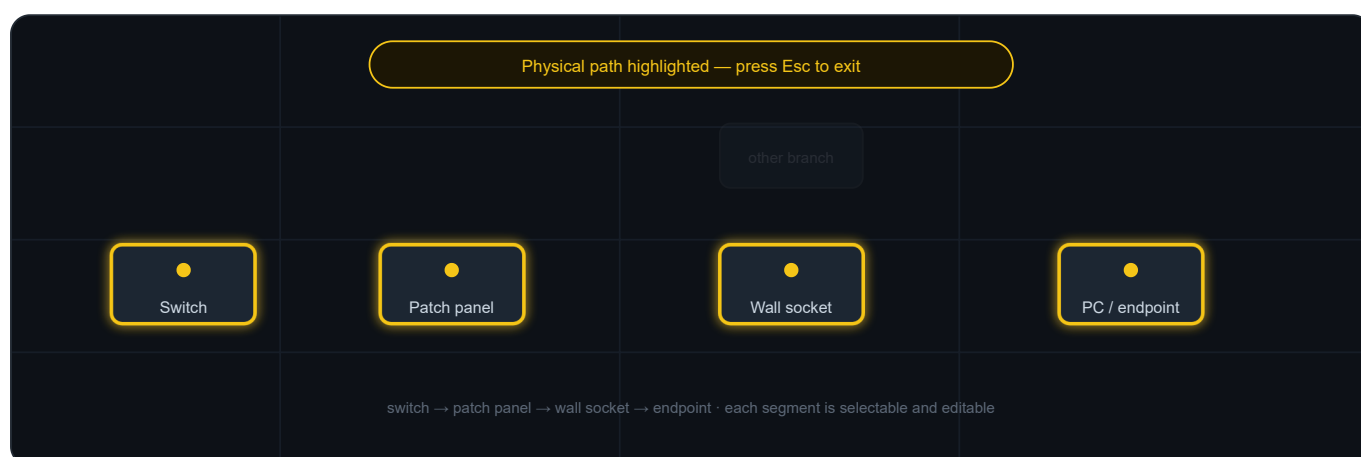

Fig. 5 — Physical path highlighting (routing mode): endpoints in yellow, trace in cyan, unrelated branches dimmed. Press **Esc** to exit.
- Double-click the cable → physical path (Fig. 5)